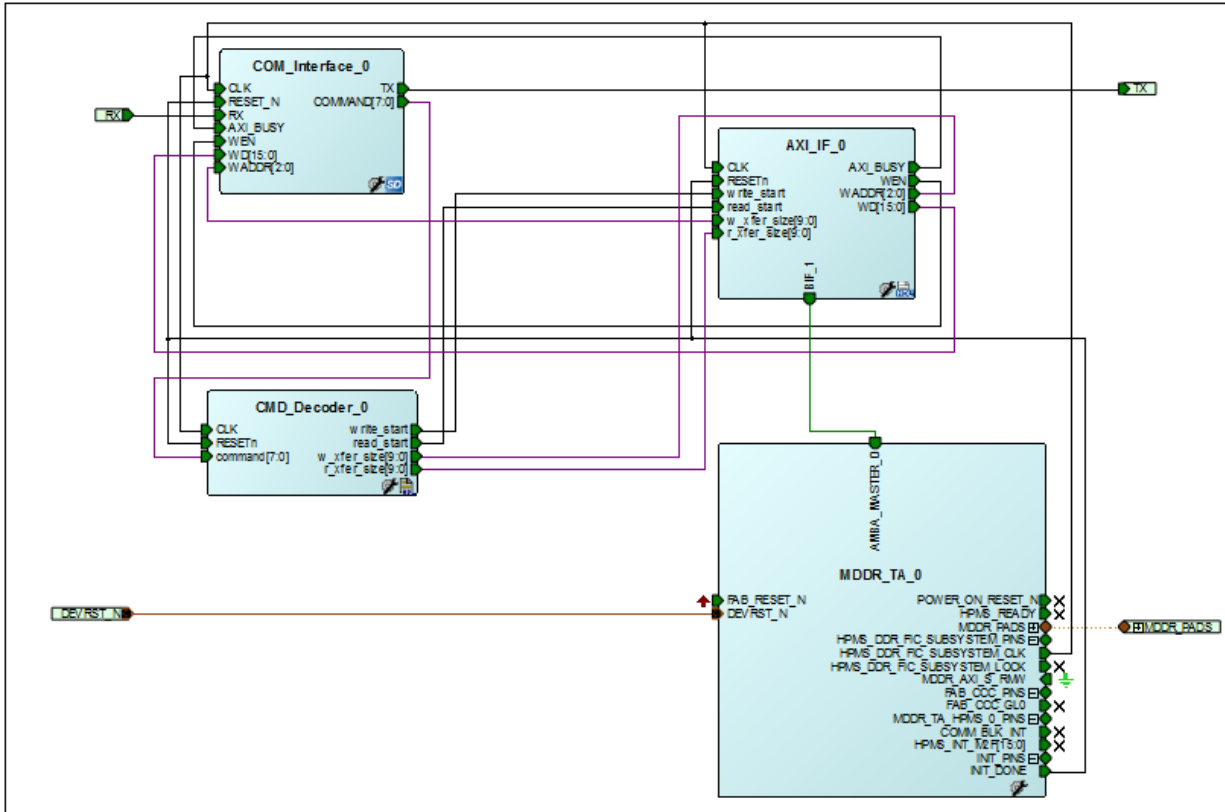

Figure 7 • Top-Level SmartDesign
Figure 7 shows the top-level SmartDesign of the example design.
7. Instantiate the custom logic (AXI master, Command decoder, and COM interface) and connect as shown in Figure 7 on page 9.